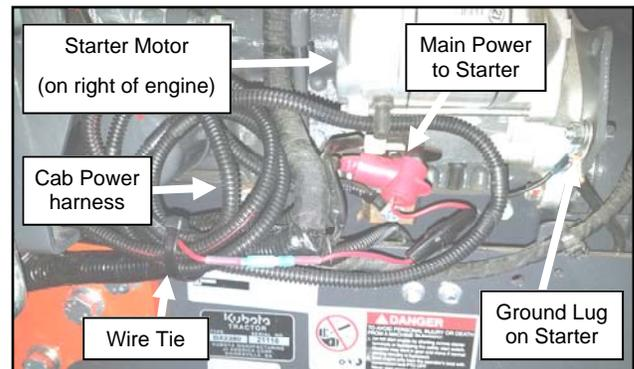

Fig. 16.9 (Connect Harnesses to Starter)
- 16.9** Locate the fuse harness (WH-GF). Make certain the fuse is installed in the fuse holder, unbolt the main power cable attached to the starter and re-secure with the ring terminal on the fuse harness. See Figure 16.9.
- 16.10** Unbolt the ground wire on the starter bracket and re-secure with the ground terminal on. See Figure 16.9.
- 16.11** Connect the bullet terminals of the power harness and the fuse wiring harness. Coil the slack in the power harness and secure with a wire tie. See Figure 16.9. Double check that the wires are not pinched or near sharp or hot surfaces.